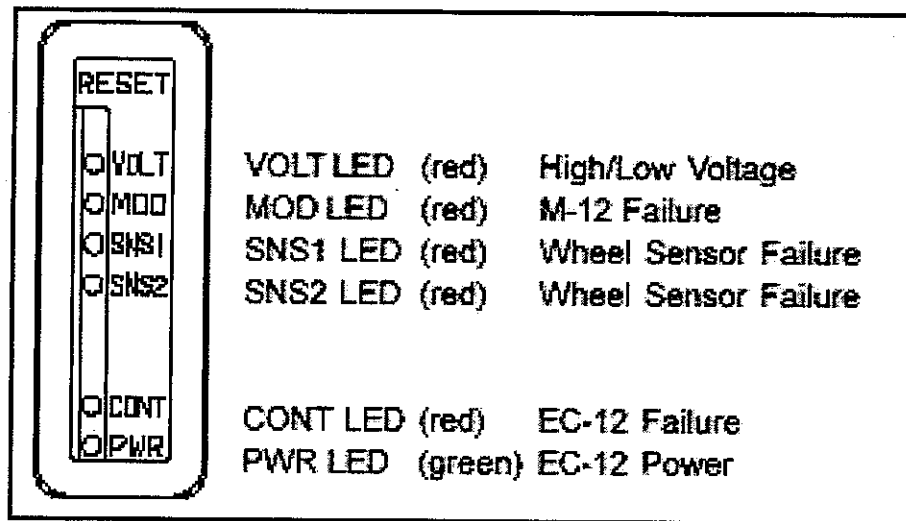

Figure 10—Status Light LED
- See Figure 10—Exploded View M-12